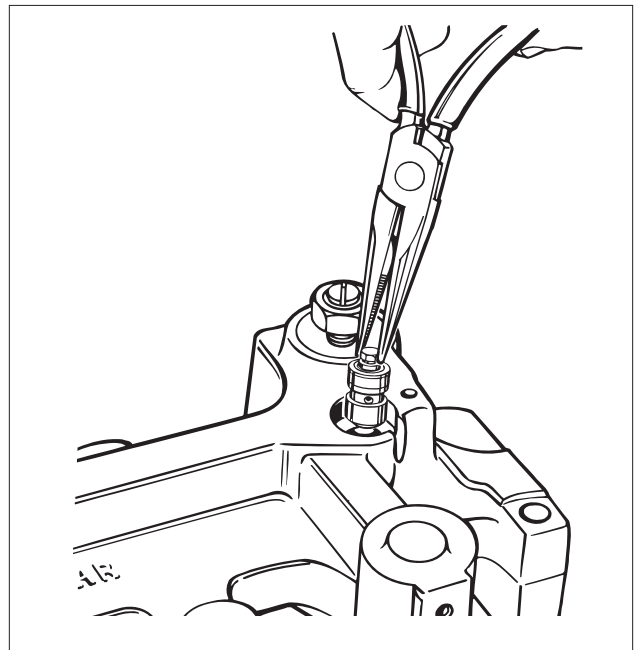

FIG. 30
3. Using needle-nose pliers, remove the control valve (see Fig. 30).